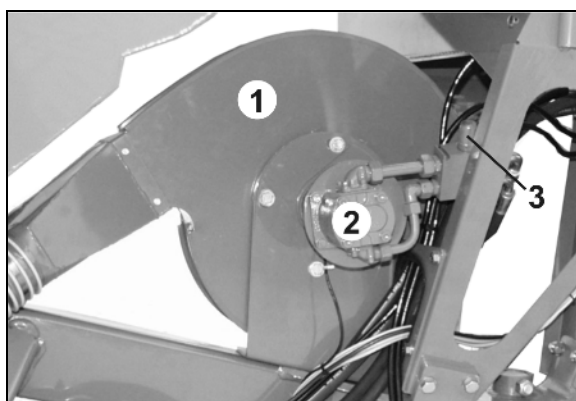

Fig. 28
The hydraulic motor (Fig. 28/2) drives the fan (Fig. 28/1) and creates an air flow. The air flow delivers the seed from the injector sluice to the coulters.
- on the pressure relief valve (Fig. 28/3) of the hydraulic motor.